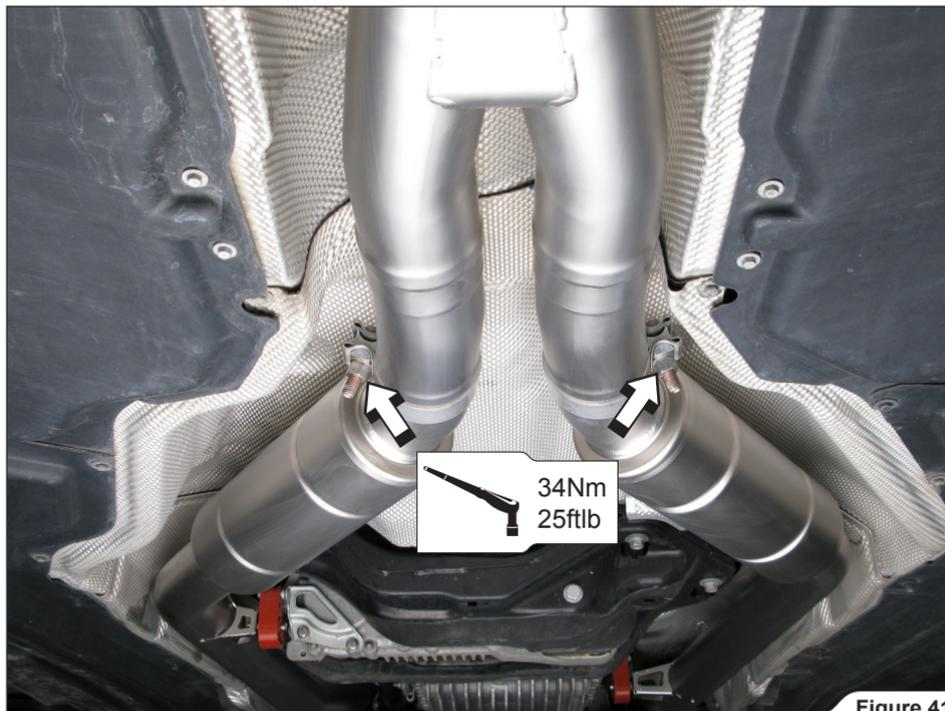

Figure 41
19. Push the link pipes and collector together, adjust the clamps and tighten them to a specified torque (**Figure 41**).